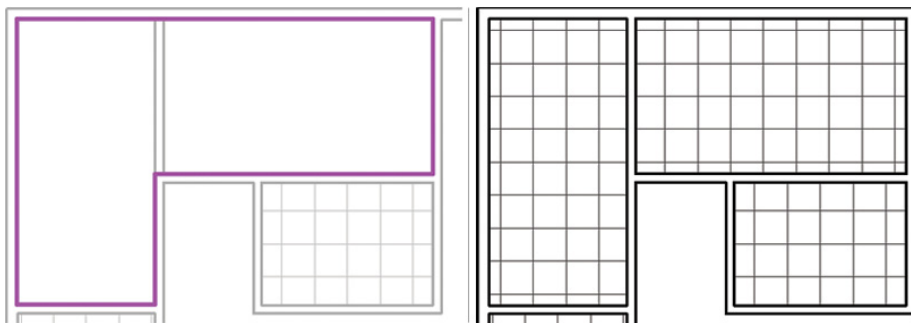

FIGURE 3.31 Sketching the ceiling
1. Selecting Sketch Ceiling on the Ceiling panel of the Modify Place Ceiling tab. Add sketch lines as shown in the first image in Figure 3.31. The result is shown in the second image.